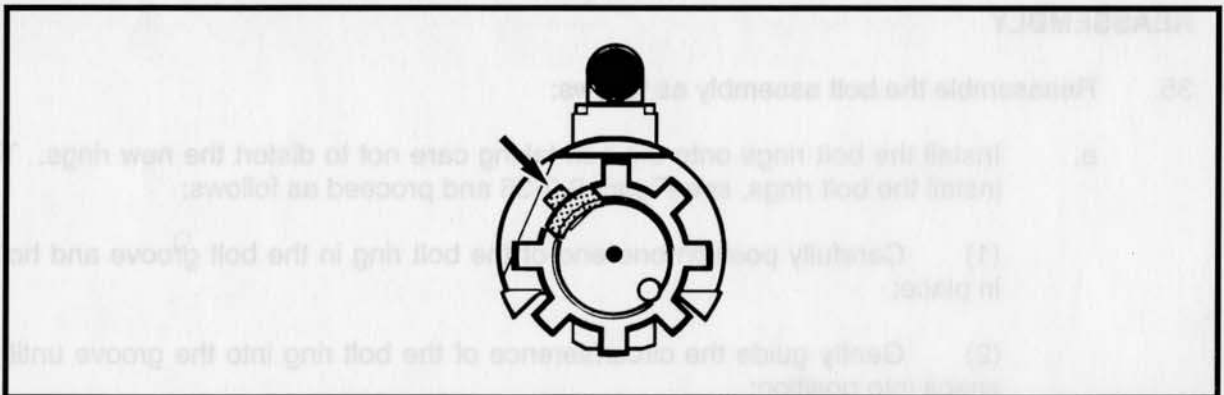

Figure 3-2-37 Assembling the Extractor
- (1) Ensure that the extractor spring is properly seated in the extractor.
- (2) Start the ejector retaining pin into its hole, being careful to leave clearance for installing the ejector;
- (3) Position the ejector spring and ejector in the bolt;
- (4) Depress the ejector to compress the ejector spring; and
- (5) Secure it with the ejector pin, ensuring that the ends of the pin are flush or below the outer surface of the bolt body.
- c. To install the extractor, hold the extractor and spring in position, see Figure 3-2-37 and insert the extractor pin.